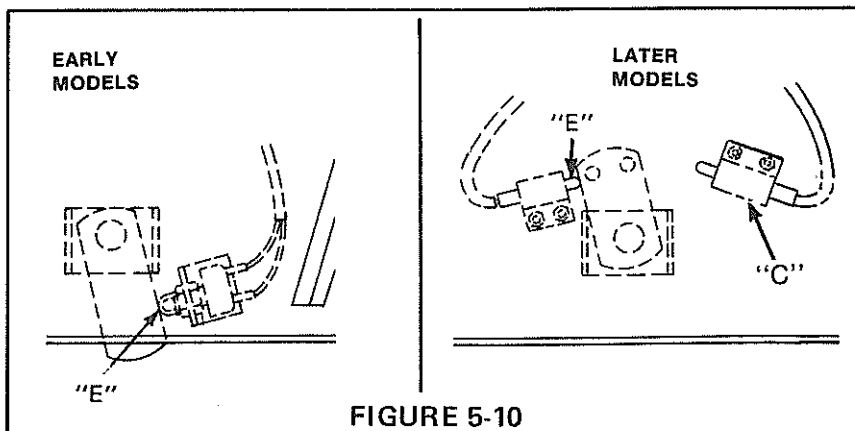

FIGURE 5-10
3. The third switch (E), Figure 5-10, is on the brake linkage. The switch button should depress approximately  $3/32"$  (2 mm) when the brake is applied. If not, adjust by loosening nuts on switch and moving switch forward or back. Retighten nuts.
4. The fourth switch (C) Figure 5-10 is also on the brake linkage. When the pedal is released the button of the switch should be depressed approximately  $3/32"$  (2 mm). When the pedal is depressed, the button of the switch is released and all power to the cruise control is shut off. If not, adjust by loosening nuts on switch and move switch forward or back. Retighten nuts.